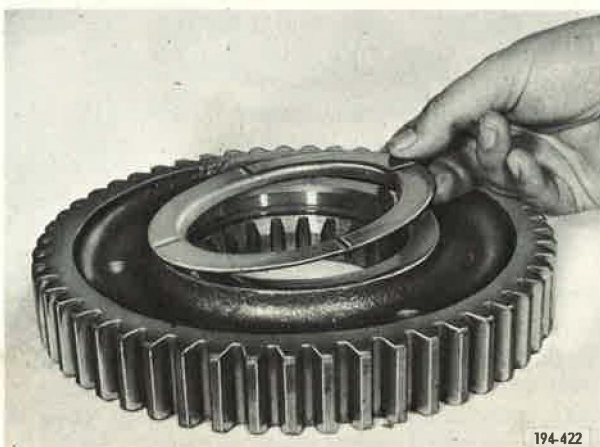

Figure 43. Installing Gear Thrust Washer on Third Speed Gear
7. Apply a light coat of grease to front face of third speed gear hub, then place thrust washer on front face of gear hub. See Figure 43.